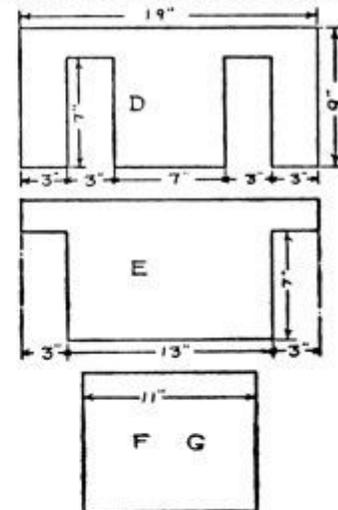

FIG. 69. PARTITIONS FOR SECOND FLOOR.
**Cut Out Partitions D, E, F, and G**, as shown in Fig. 69.